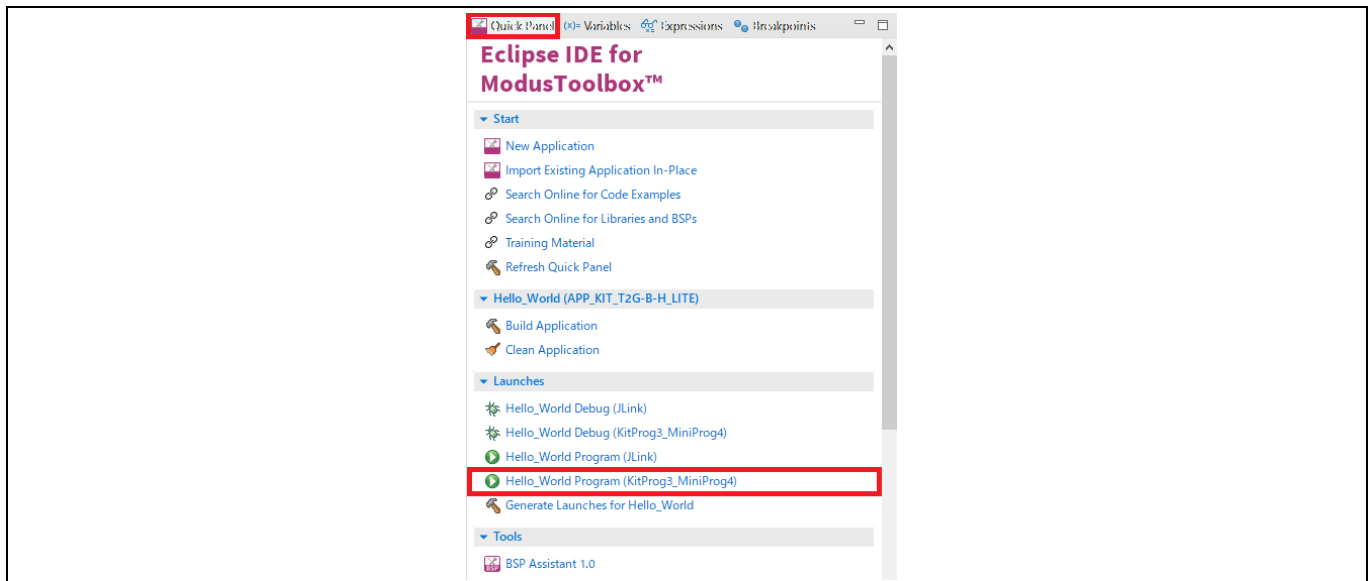

Figure 11 Programming in ModusToolbox™ software
- To build and program a TRAVEO™ T2G-B-H MCU application, in the Project Explorer, select **<App_Name>** project. In the Quick Panel, scroll to the Launches section and click the **<App_Name> Program (KitProg3_MiniProg4)** configuration as shown in **Figure 11**.